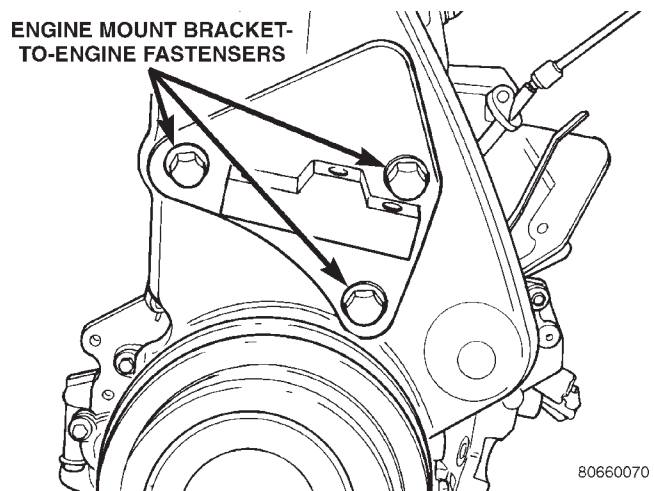
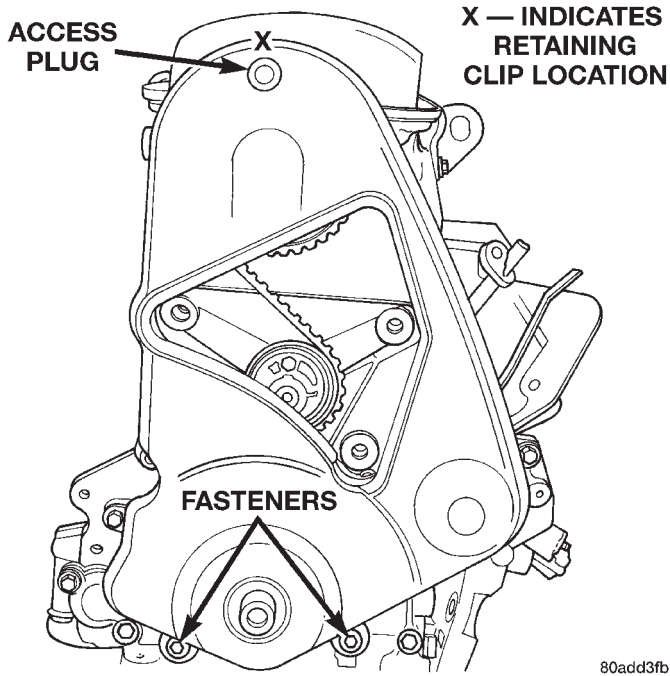

Fig. 77 Right Engine Mount Bracket—Typical
Fig. 78 Timing Belt Cover
- (9) Remove right engine mount bracket (Fig. 77).
- (10) Remove accessory drive belt idler pulley from generator bracket.
- (11) Remove bolts attaching generator bracket to engine. Move bracket away from engine for clearance to remove the front timing cover.
(12) Remove front timing belt cover (Fig. 78).